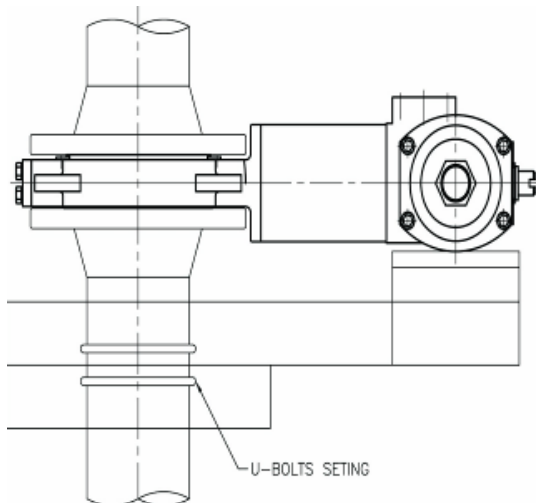

Fig 3.2 Installing Support
- ⑥ Install the valve at right angle to the ground as much as possible. If this is impossible, attach a support to the valve before installing it. (See Fig 3.2 and 3.3)